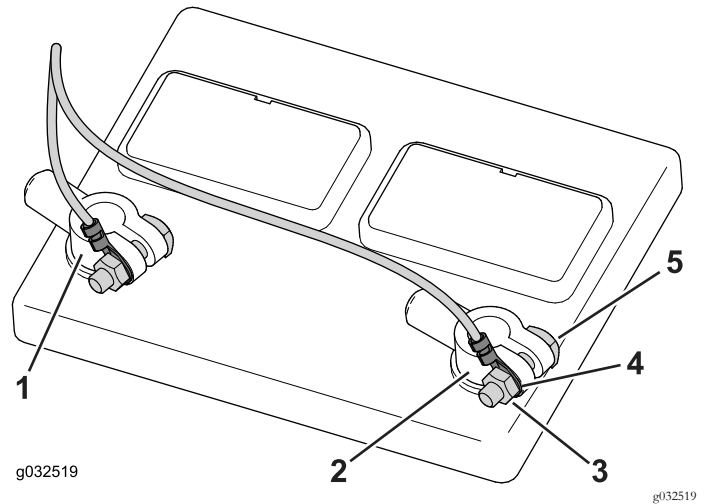

Figure 42
1. Loosen and remove the negative-post clamp and then the positive-post clamp from the battery (Figure 42).
3. Install the negative-ring connector over the negative-post bolt and loosely install the nut (Figure 42).
4. Install the positive-ring connector over the positive-post bolt and loosely install the nut (Figure 42).
5. Install the positive-post clamp to the positive-battery post and then the negative-post clamp to the negative-battery post (Figure 42).